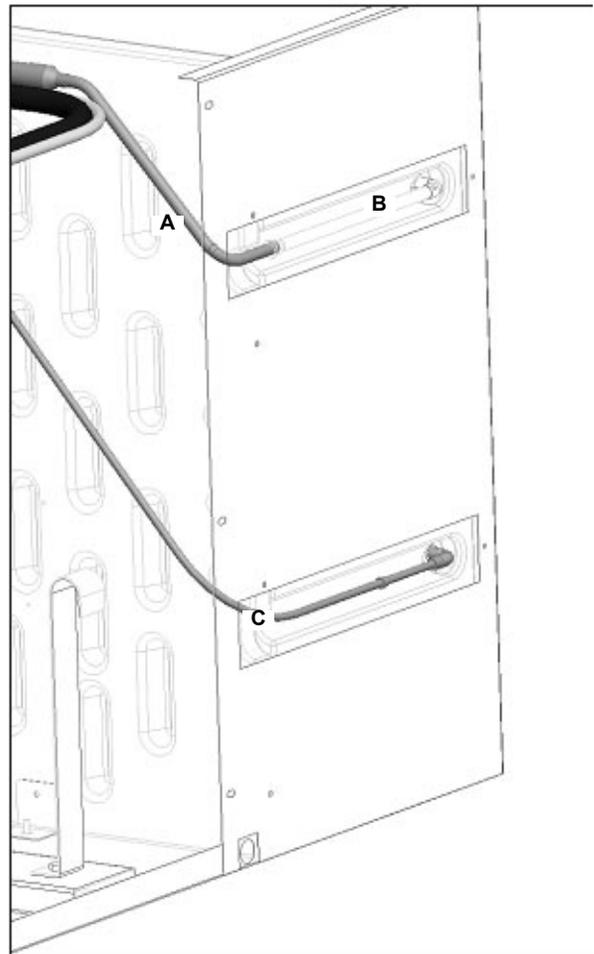

Figure 23. Rear of Unit
24. At the rear of the unit, remove the suction line (A) and the liquid line (C) for the left evaporator. **DO NOT** remove the line extension (B) (Figure 23).